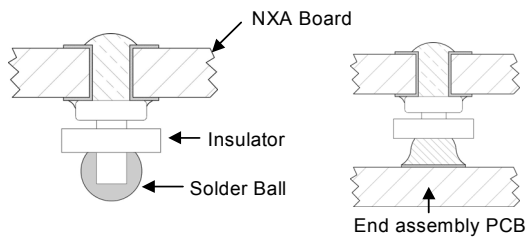

Figure 32. Column Pin Connector Before and After Reflow Soldering.
These surface mountable modules use our newest SMT technology called "Column Pin" (CP) connectors. Fig 32 shows the new CP connector before and after reflow soldering onto the end-board assembly.